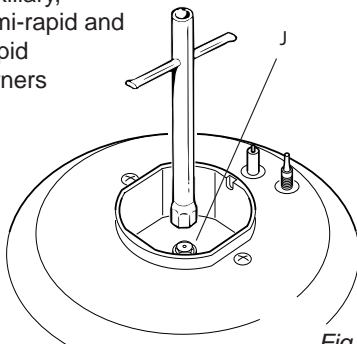

Fig. 2.2
- Using a wrench, substitute the injectors "J" (figs. 2.2, 2.3) with those most suitable for the kind of gas for which it is to be used.